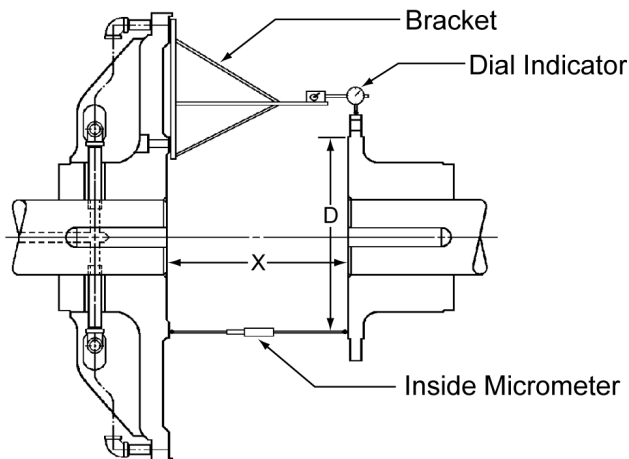

Figure 5
“X” DIMENSIONS (FIG. 5)
Not to exceed 0.0005 inch per inch (0.0005 mm/mm) diameter at which readings are taken (“D” on Fig 5).
- 2.4.1 Foundations must be set so distance "X", shown on **Figure 5** (or the appropriate drawing for non-standard applications), is established. If the clutch is mounted on a shaft having plain bearings, make sure the shaft is centered within the bearings when establishing the "X" dimension. Refer to Table 2 for appropriate "X" dimensions.
- 2.4.2 Fabricate a rigid bracket for supporting a dial indicator and attach to the spider. See **Figure 5**